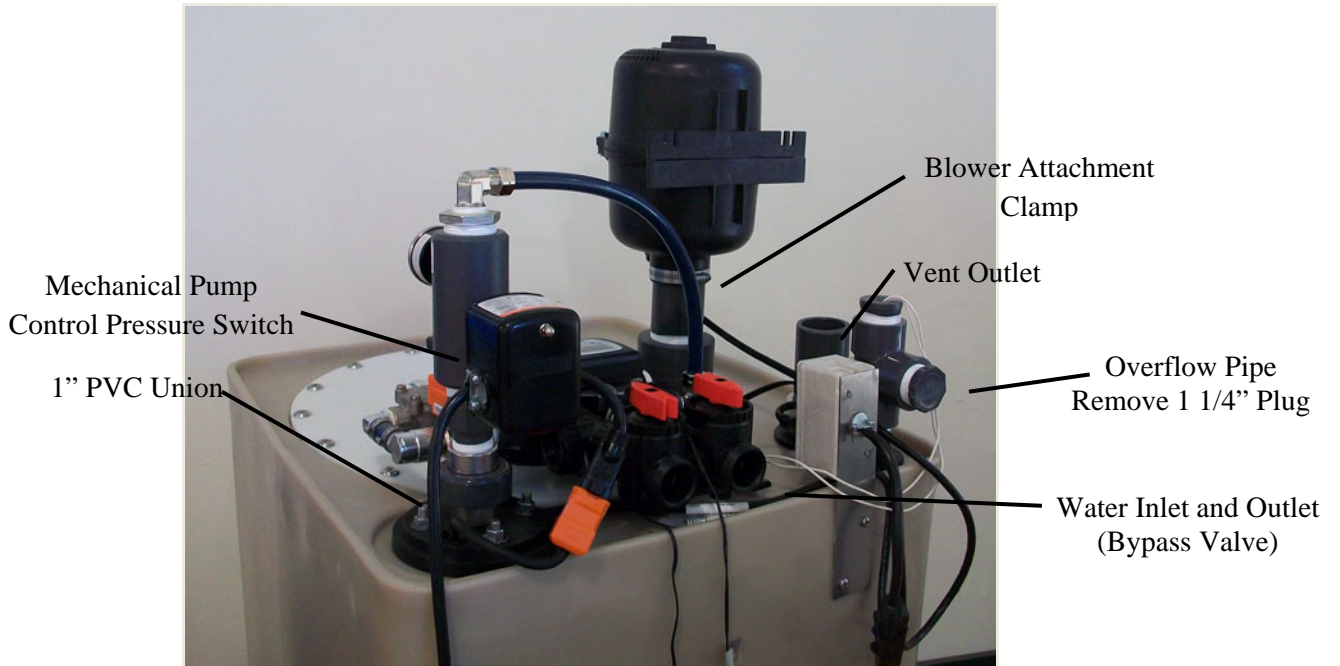

Figure 8 - Installation Points
3. In case of a malfunction, the unit could overflow. Bubble-Up® Interactive™ is fitted with an overflow pipe. (The overflow pipe is mounted near the rear of the unit. See Figure 8) Take this into account when positioning the unit. It is best if the unit can be positioned near a drain or sump pit with a sump pump.
11. Firmly slip the blower onto the blower attachment nipple and tighten clamp to secure blower to nipple. See figure 8.